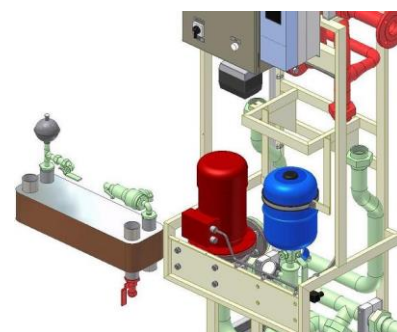

Figure 6.2-4
3. Carefully pull / lift / turn out the HX11 (Figure 6.2-4).